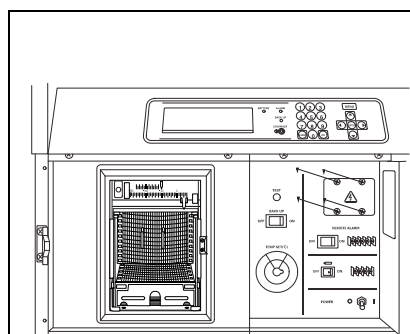

Fig. 1
1. Remove 4 screws of the communication box cover. (Fig. 1)